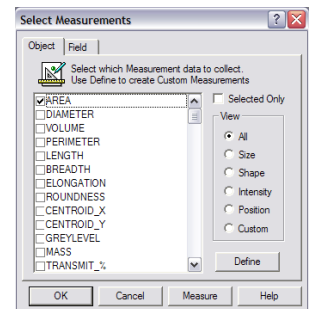

fig.38
9. Click the **Measure** icon in the **Task** toolbar (**fig.38**). Check **Width** to measure the width of the metal coating.